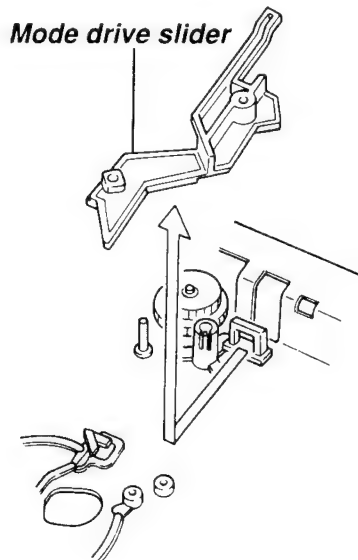

Fig. 4-23-1
3. Move the mode drive slider to the left and pull it upward. (Refer to Fig. 4-23-1.)